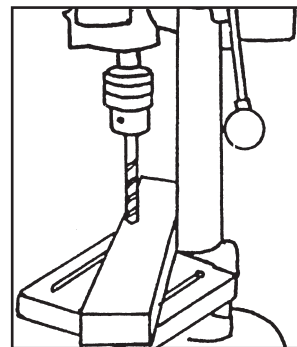

Figure 6
2. Insert the drill into the jaws of the chuck approximately 1", ensuring that the jaws do not touch the flutes of the drill. Before tightening the chuck, ensure that the drill is centered within the jaws. Refer to **Figure 6**.